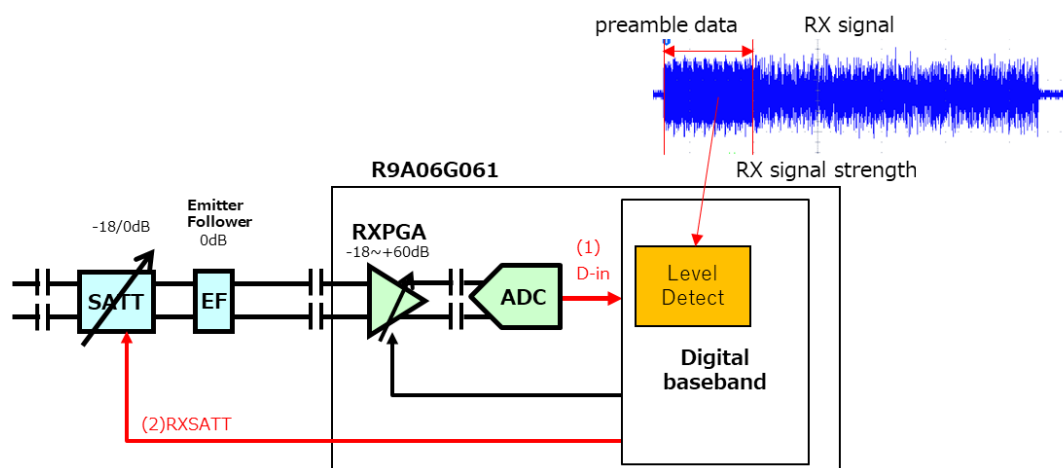
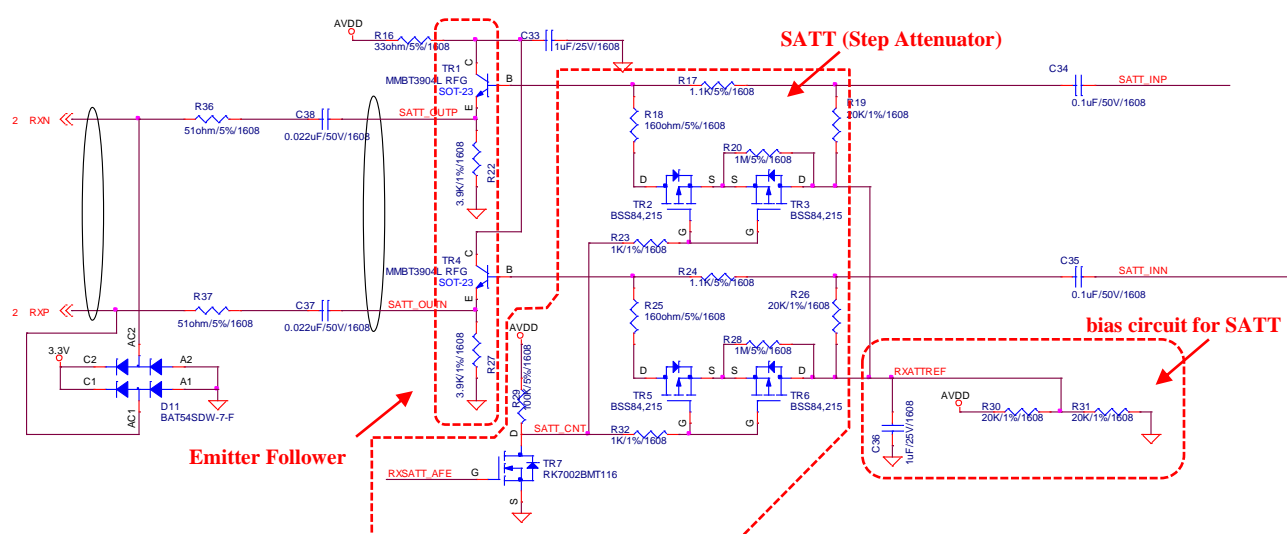

Figure 3-7 Step Attenuator (SATT) control method
Figure 3-8 Step Attenuator (SATT) circuit example
- Figure 3-7 shows how to control SATT.
- (1) Using the received preamble data, the level detection function of the digital baseband circuit of R9A06G061 determines whether the signal strength of the ADC output exceeds the signal level that saturates the receiving circuit.
- (2) If the received level exceeds the level that saturates the receiving circuit, the received signal is attenuated by switching the RXSATT signal from 0 to 1 and the SATT gain from 0dB to -18dB. Figure 3-8 shows an example of a SATT circuit mounted on a DC-PLC board.